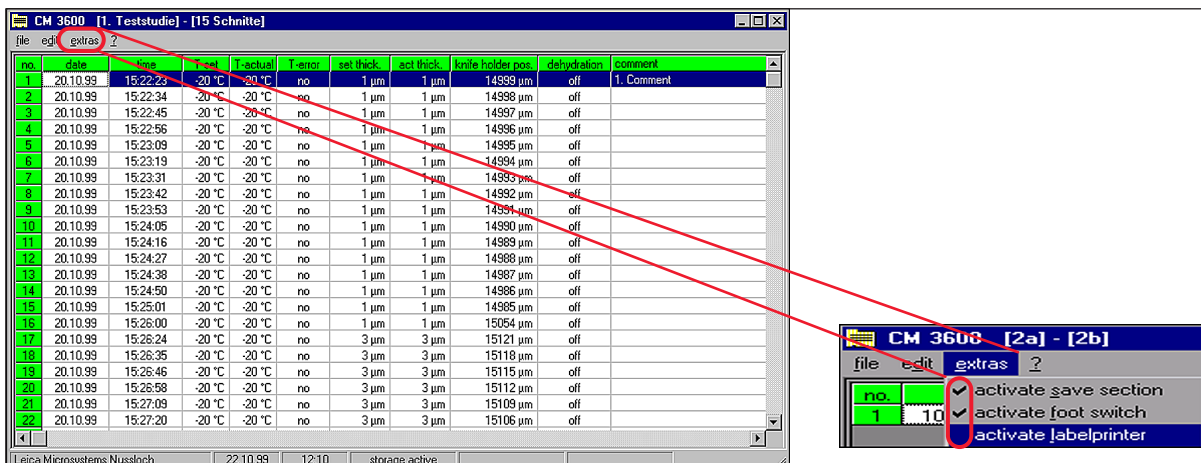

Fig. 86
- Once the measuring position reaches 100,000 µm, interrupt sectioning recording (for deactivating the **Save** menu item, see (→ Fig. 86) under **Extras** in the study) and the switch over the knife holder.